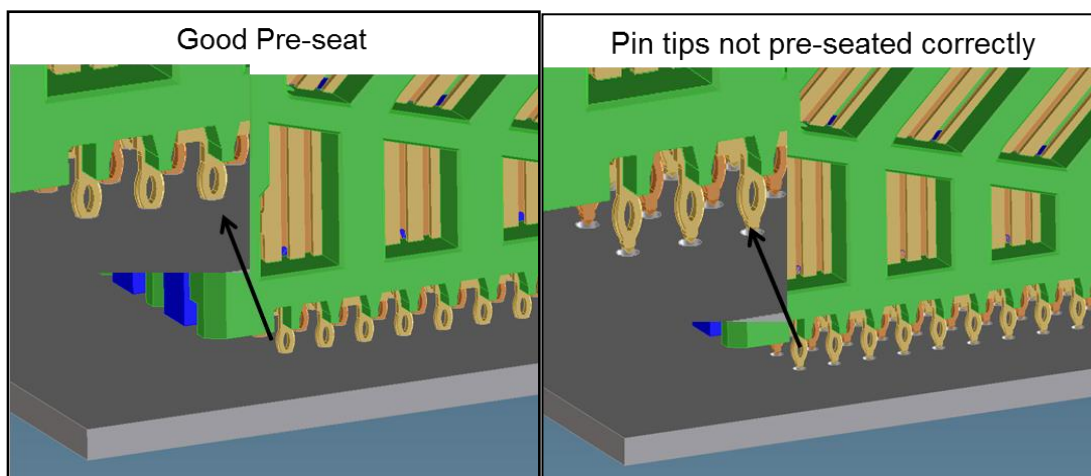

Figure 22: Pre-Seat Evaluation
- ii. Visually check for bent pins prior to insertion (see Figure 22 below)